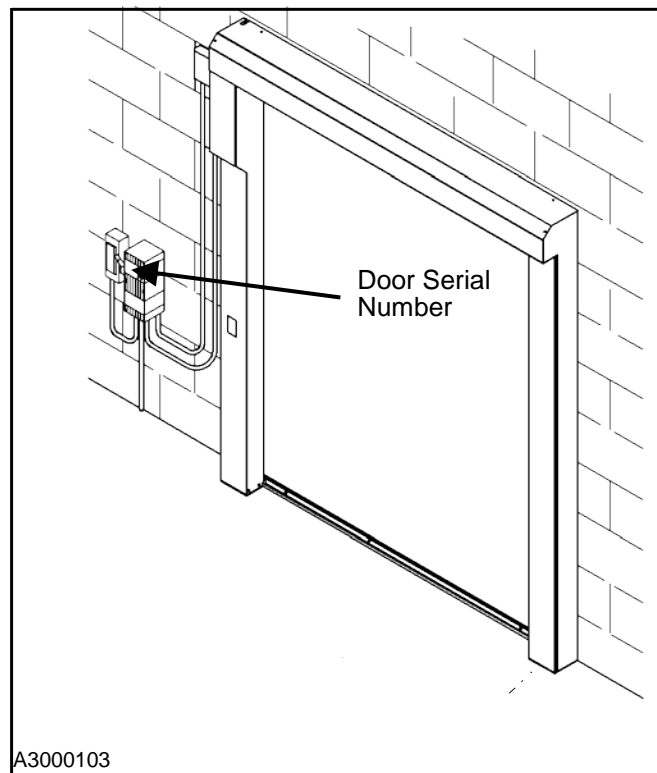

Figure 40
3. To ensure the correct parts are shipped, please include the serial number of your door with the order. There are three universal locations where your DOOR SERIAL NUMBER can be found. These are at the inside of the left side column (approximately eye level), on the drive motor and on the door of the System 4 control panel. (See Figure 40.)